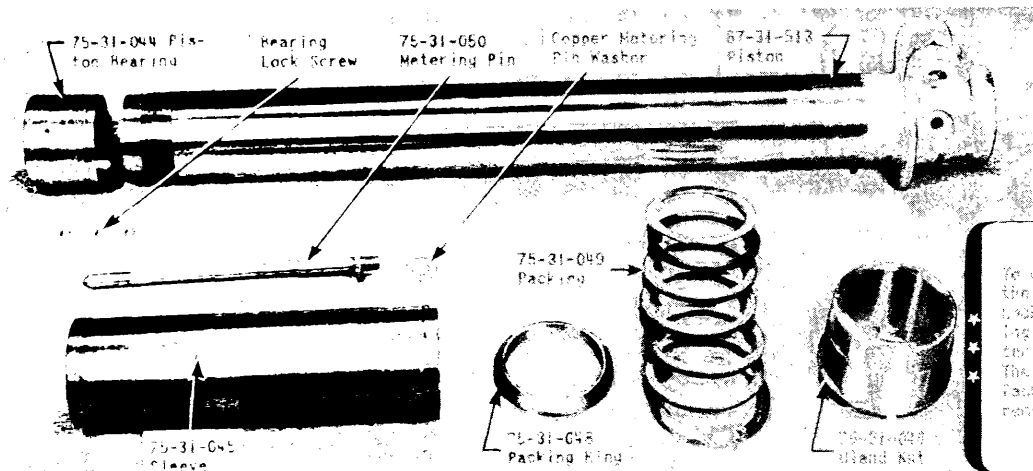

Figure 164 - Oleo Strut Piston Disassembled
(14) Use a spanner wrench and turn the piston bearing off the piston. The sleeve, packing ring, packing, and gland nut can now be slid off the piston. The piston is now completely disassembled. (See figure 164.)
found defective in any way should be replaced. Use only alcohol to clean the oleo strut parts. (See figure 164.)